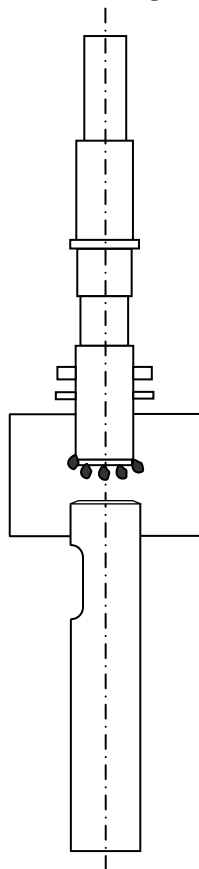

Figure 23
- Remove the tool, push the piston (with a tube) as high as possible, grease abundantly, and reinstall the tool. See Figure 23.